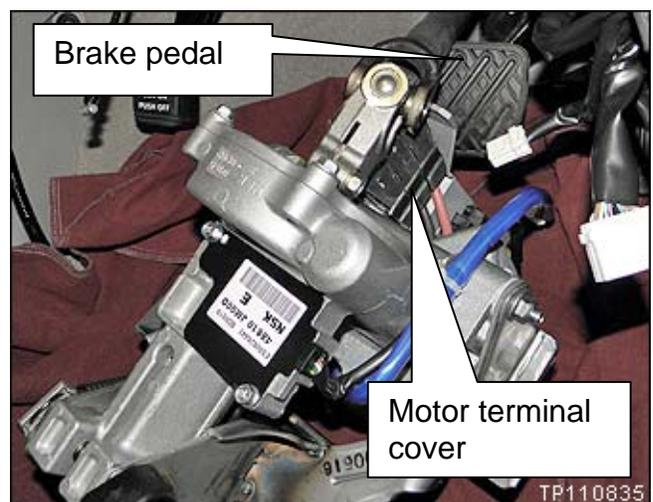

Figure 31
34. Locate and remove the plastic motor terminal cover shown in Figure 31.